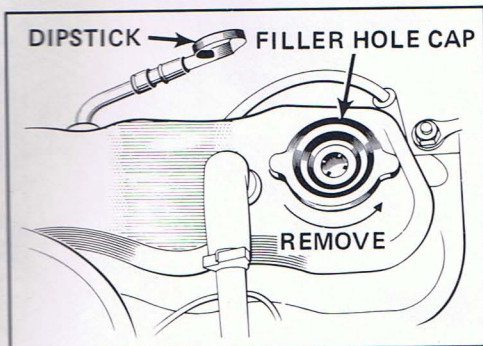

Figure 1 - Top of engine, 4-cylinder
1. The best time to check the engine oil level is when the oil is warm, such as during a fuel stop. Make sure the vehicle is parked on level ground. After stopping the engine, wait a few minutes for the oil to drain back to the oil pan. Then, pull out the dipstick on the front of the engine. See Figure 1 or 2. Wipe it clean, and push the dipstick back down all the way. (The dipstick has a spot on the top. Make sure it is fully seated.) Push the dipstick back down all the way. (The dipstick has a spot on the top. Make sure it is fully seated.) Now, pull out the dipstick and check the oil level on it.